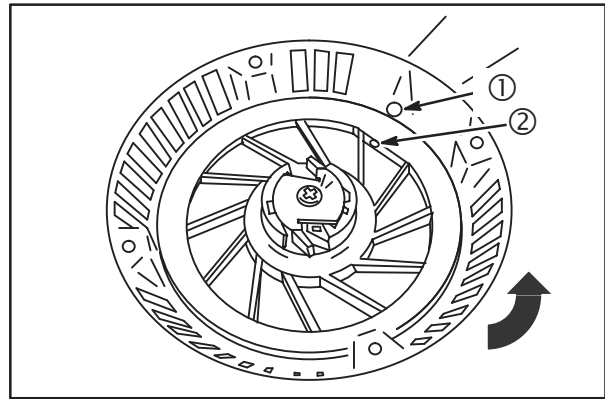

Fig. 53
3. Rotate pulley **COUNTERCLOCKWISE** (arrow) six complete turns, **Fig. 53**.
4. Rotate pulley **CLOCKWISE** just until rope hole in pulley (2) is in line with starter housing eyelet (1).